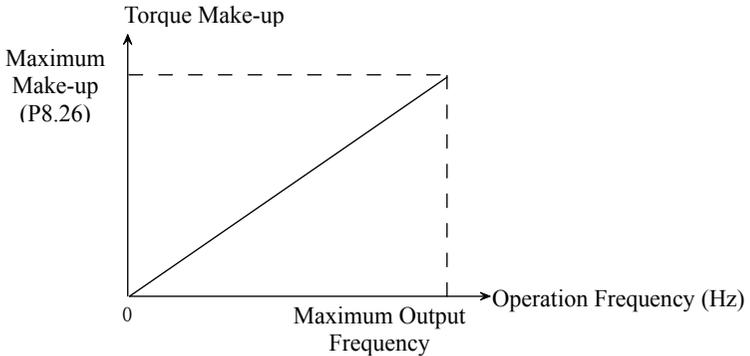

Figure 5-8-2 Relationship between the High-speed Torque supplement and the Output Frequency
- ◆ What P8.26 sets is the maximum supplement and 100.0% corresponds to the rating output torque of motor. When the supplement is according to the operation frequency, the relationship between the torque supplement and the present operation frequency is showed in Figure 5-8-2: